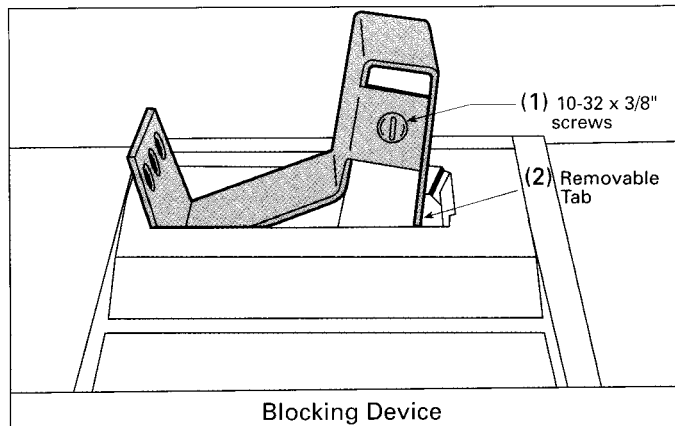

Figure 1
- Loosen the two screws **(1)** (#10-32 x 3/8") so that the blocking device can be positioned and fully seated over the toggle handle, as shown in Figure 1.
The lip of the blocking device **(2)** (Figure 1) is undercut so that a short section can be removed. To modify the device for blocking a handle ON, snap off this removable tab and discard.